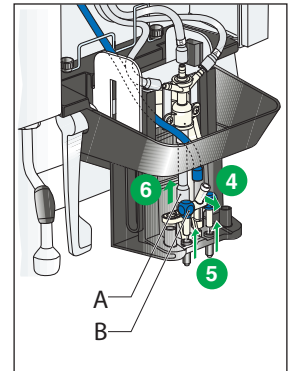

Fig. 2
- 4 Tilt the flow divider head to unlock it. (Fig. 2)
- 5 Remove the flow divider nozzle (B) from the support. (Fig. 2)
- 6 Remove the cappuccino maker nozzle (A). (Fig. 2)